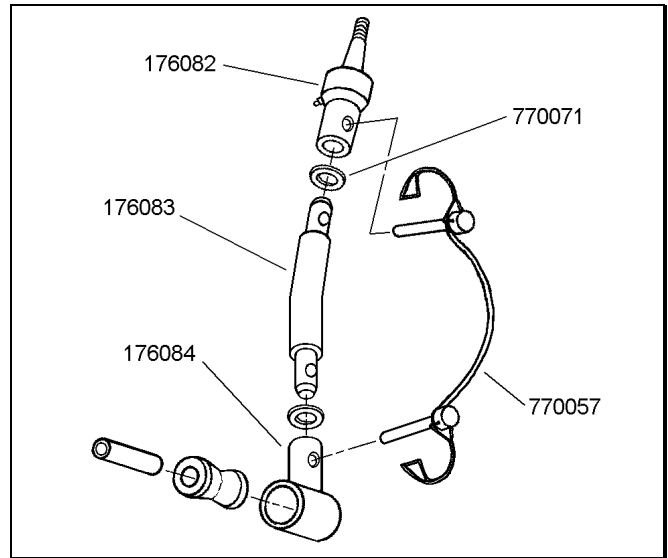

Figure 9
- 4) Connect the bottom socket assembly to a top swivel (176082) with the center section. Insert a set of locking pins (770057) as shown in figure 9.